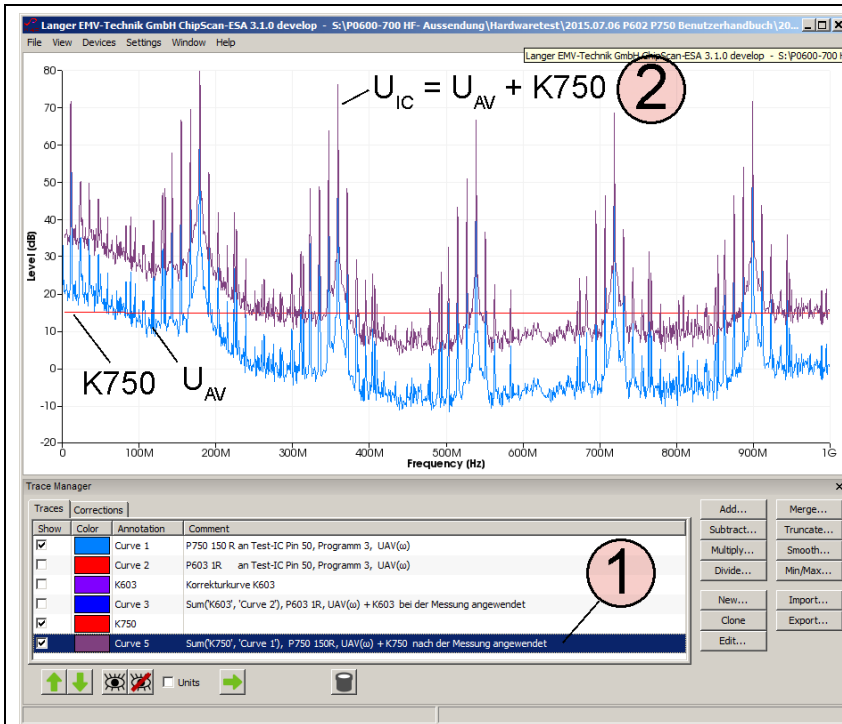

Figure 29 Correction after the measurement; result of the addition $U_{IC} = U_{AV} + K750$
The calculation creates the entry (① **Figure 29**) at the bottom of the "Traces" list and is displayed as "Curve 5" (② **Figure 29**).